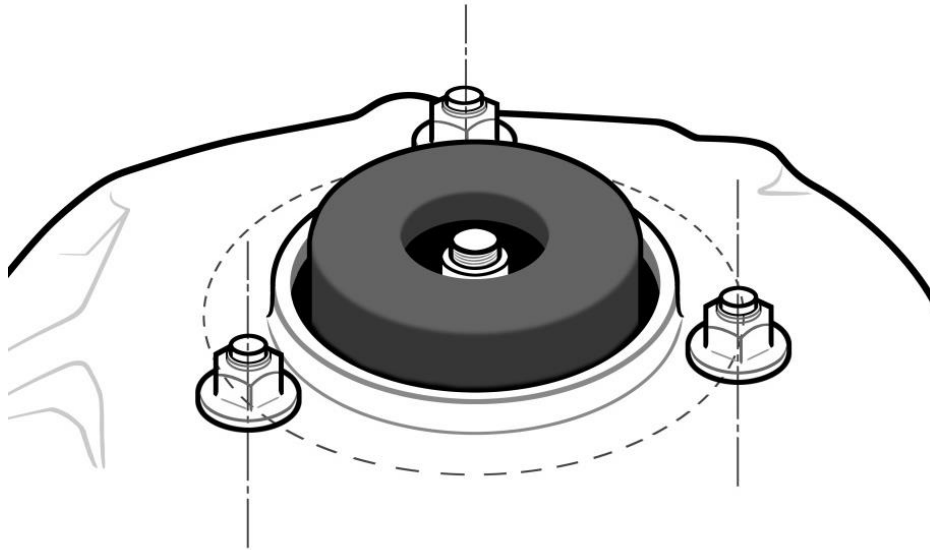

Figure 6
E. MacPherson strut upper mount pivot must remain within the centerline dimension of the OEM unaltered factory bolt pattern on the chassis. Refer to Figures 6 and 7.